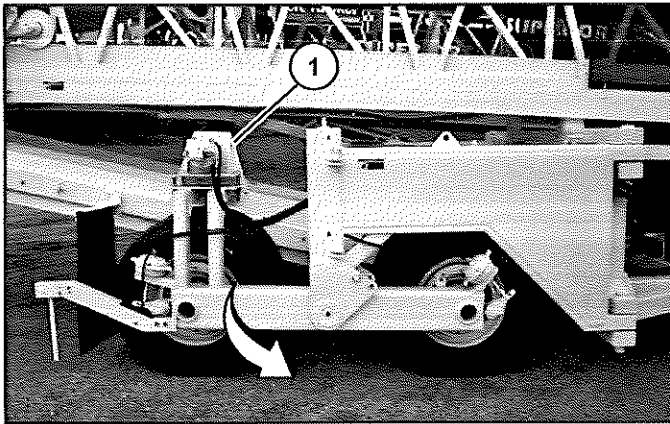

Figure 18
4. Swing out the axle assembly for radial travel. Start on the side of the conveyor with the power travel (Item 1) (Figure 18). If your conveyor is equipped with the dual drive power travel, you can swing out either side first.